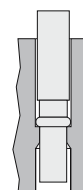
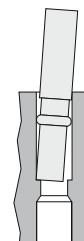

Fig. 2 – correct
Fig. 3 – incorrect
- ❖ Place the crimped contact partially in the moulding – this should leave 1.5-2mm of crimp protruding from the moulding. It is important that the correct position is found (Figure 2), otherwise the retention shoulder inside the moulding will get removed when force is applied, and the crimp will not stay in the moulding (Figure 3).